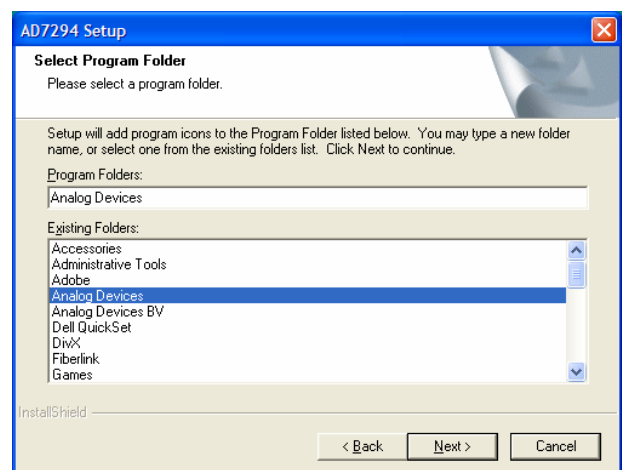
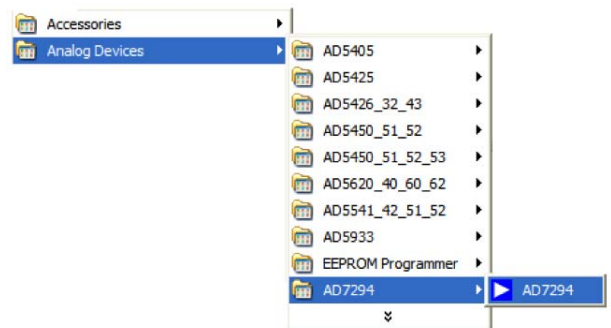

Figure 4. AD7294 Setup, Select Program Folder Window
Figure 5. Add the Program Icon
4. Choose **Analog Devices** from the **Select Program Folder** window (see Figure 4). If the Analog Devices folder does not yet exist, create a folder called Analog Devices and add the program icon to this new folder (see Figure 5).